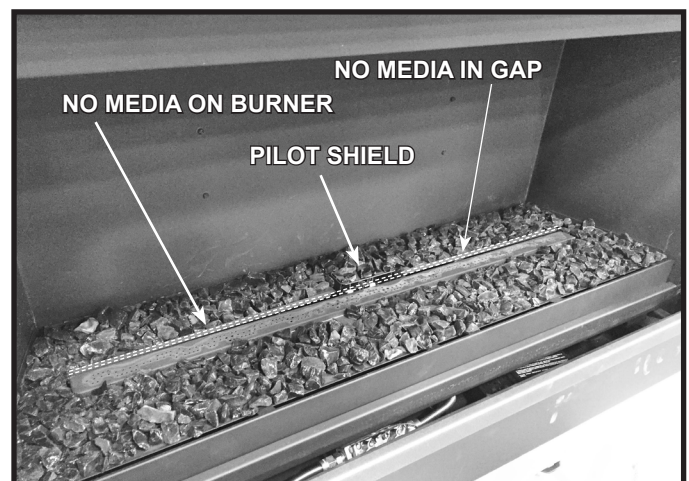

Figure 11.1 Media Placement
Install glass media around the burner ensuring that no media is placed on the burner or in the gap located behind the burner. See Figure 11.1. Install media on top of pilot shield.
2. The glass assembly has two upper spring latches and two lower spring latches. See Figure 11.1. Locate the two spring latches that are on the upper left and right of the fireplace.